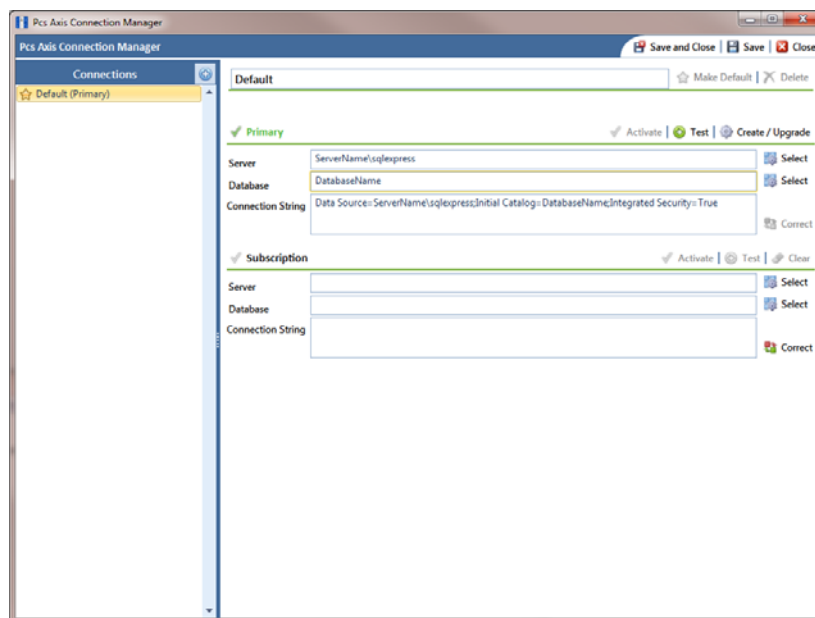

Figure 11-4. PCS Axis Connection Manager
- a Click the Windows **Start** button  and navigate to the program folder labeled *PCS Axis 1.7*. Select **PCS Axis Connection Manager 1.7** to start the program (Figure 11-4, page 524).